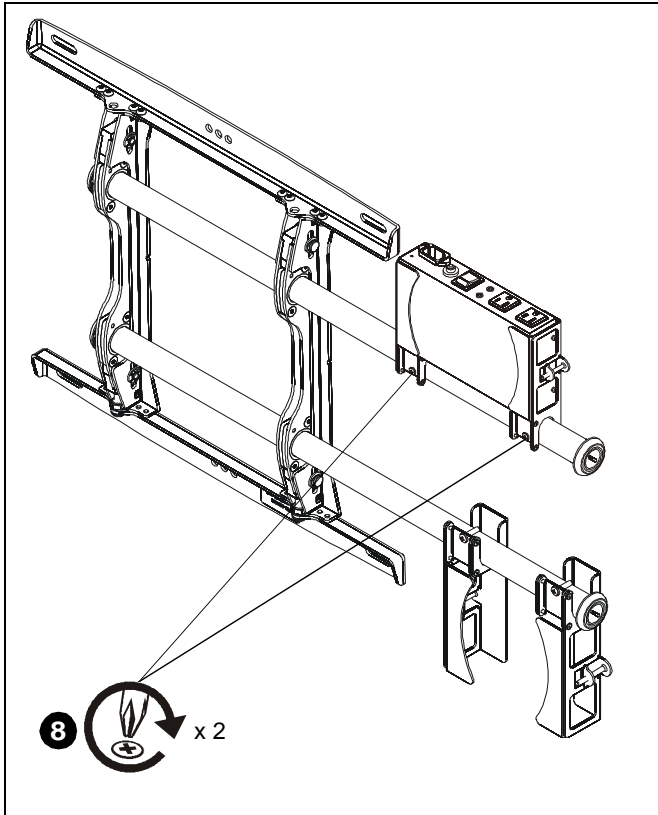

Figure 4
8. Tighten the Phillips pan machine screws to complete installation of the FCA112 bracket. (See Figure 4)